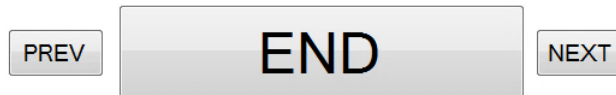

Figure 112: Barcode Scanner Controls
2. *Automatic DUT position.* The scanned BD address will be assigned to the selected DUT. DUT selection is done automatically. The PLT starts from the first active DUT and goes to the next after a successful BD address scan. The user can change the selected DUT via the controls shown in Figure 112. If the scanned BD address was successfully assigned, the PLT will automatically select the next active DUT and wait for a new BD address to be scanned.